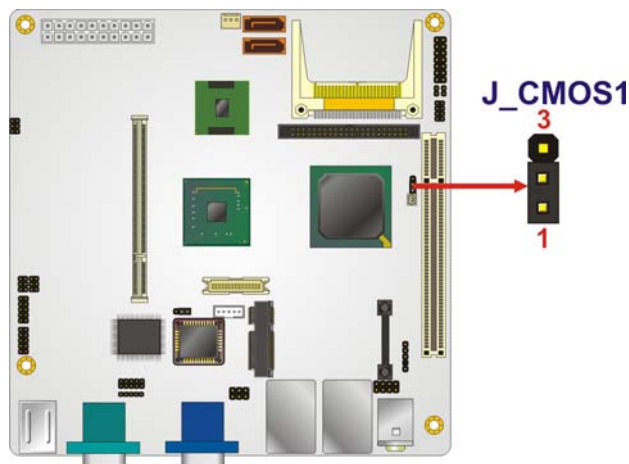

Figure 5-3: Clear CMOS Jumper
- Jumper Location: See Figure 5-3
The location of the clear CMOS jumper is shown in Figure 5-3 below.